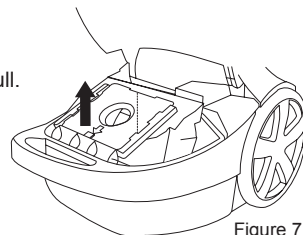
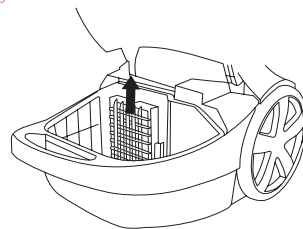

Figure 7
Figure 8
1. Change the dust bag immediately once the 'dust bag full' indicator turns red, see Figure 7.
3. Open the cover by pulling the cover release (dust bag) upwards. Remove the dust bag, see Figure 7. Remove the motor safety filter holder, located behind the dust bag: see Figure 8.